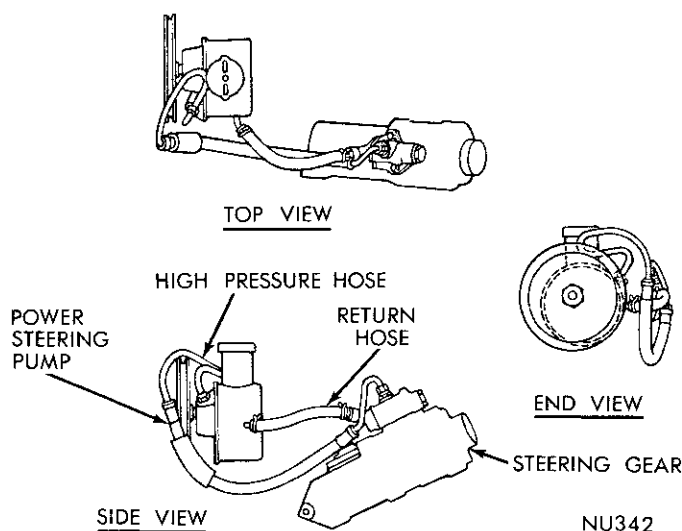

Fig. 4—Hose Routing—1.06 Pump 8 Cylinder Engines
(1) Route hoses in same position they were in before removal.
(2) Route hoses smoothly, avoiding sharp bends and kinking.
(3) When properly installed, the pressure hose tube ends should rest against the outside of the pump reservoir neck on one end, and the outside of the gear valve body on the other end. (Fig. 4).
(4) Tighten pump end hose fitting to 24 foot-pounds and gear end fitting to 160 inch-pounds.
(5) Hoses must remain at least one inch away from all pulleys, battery case and brake lines, and two inches away from exhaust manifold.
(6) When used, protective sponge sleeves must be properly positioned to prevent hose contact with other components in engine compartment.
(7) After hoses are installed, check for leaks while system is being bled. See "Pump Installation".